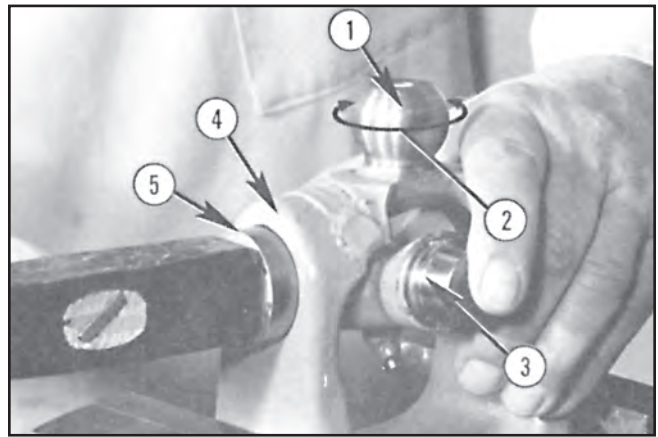

FIGURE 74
7. Repeat above steps to remove both needle bushings and center cross from opposite end Item 7 of flange assembly. Refer to Figures 74 and 75, page 34 for removal of needle bushings and center crosses from both outer yokes. Rest their "bare" center crosses on the vice jaws because they will be discarded.